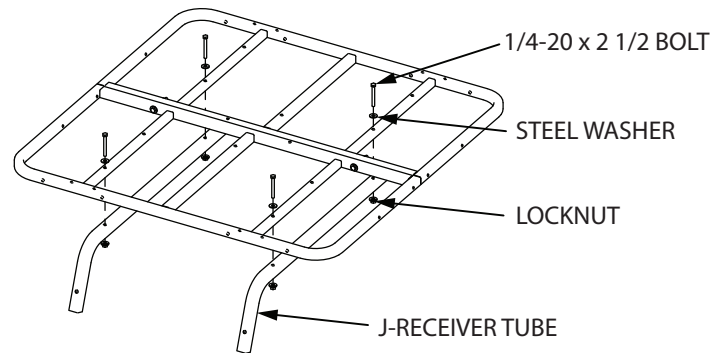

FIGURE 2
2. Attach the assembled platforms to the (2) provided J-receiver tubes (TP109) using (4) provided 1/4-20 x 2-1/2" bolts, locknuts and steel washers. **SEE FIGURE 2**